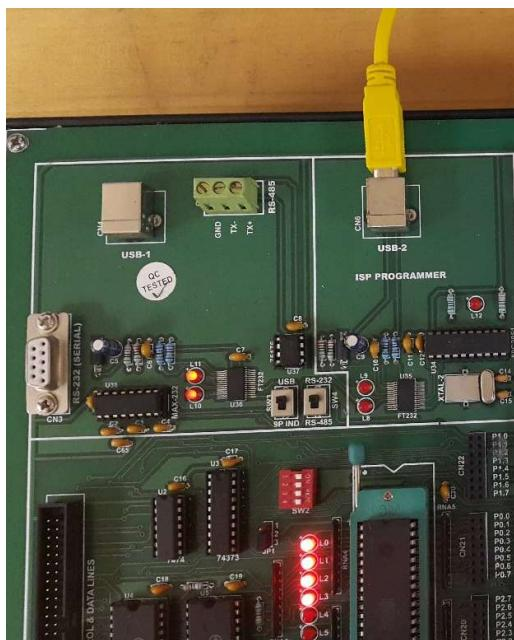

Figure 3.14: Connecting Cable at USB-2 Port (ISP Programmer)
- a. Connect the USB cable at port USB-2 (ISP Programmer) on 89S52 Microcontroller Board as shown in Figure 3.14.